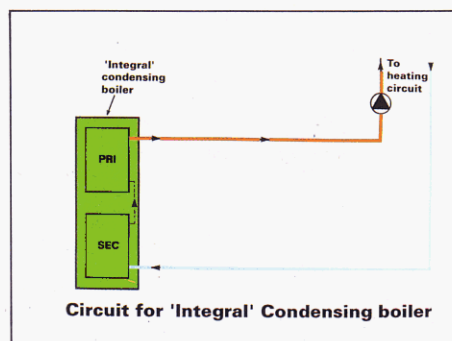

Figure 2
- The secondary heat exchanger is often internally connected to the "primary" giving single flow and return connections to the boiler (known as "integral") see Fig 2.